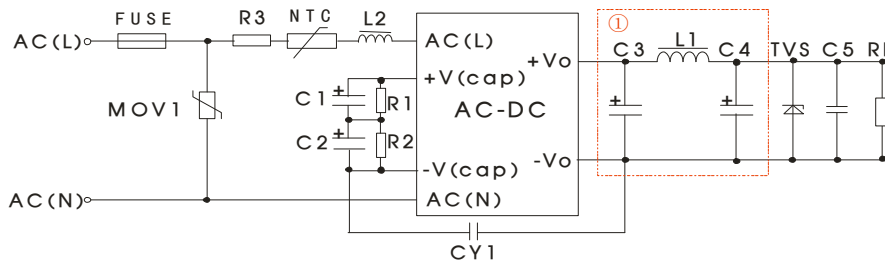

Fig. 1
RE	CISPR22/EN55022/FCC part 15 CLASS A (See Fig. 1 for typical application circuit)
EFT	IEC/EN 61000-4-4 ±2KV (See Fig. 1 for typical application circuit) perf. Criteria B
Surge	IEC/EN 61000-4-5 line to line ±1KV (See Fig. 1 for typical application circuit) perf. Criteria B
- 2.It is necessary to add pi-type filter circuit to the output, such as the typical application of Figure 1.
2. It is necessary to add pi-type filter circuit to the output, such as the typical application of Figure 1.